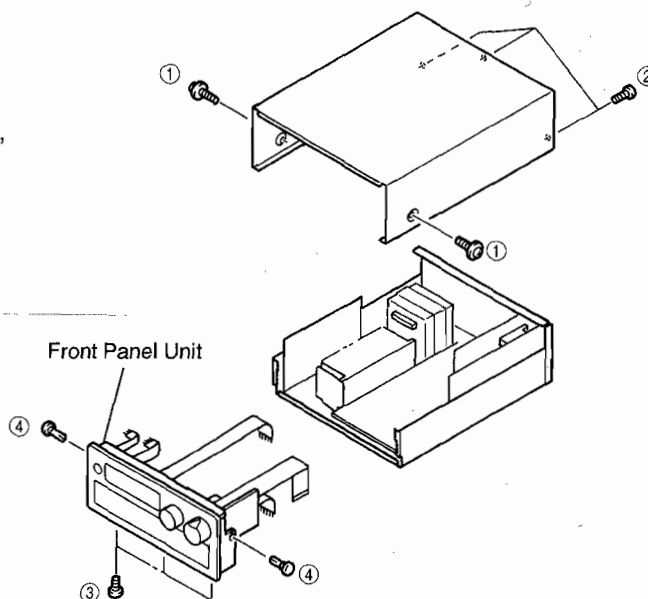

Fig. 1
Remove 2 screws (①) and 3 screws (②) in Fig. 1.
- b. Remove 3 screws (③) and 2 plastic rivets (④) and then remove the Front Panel Unit in Fig.1.